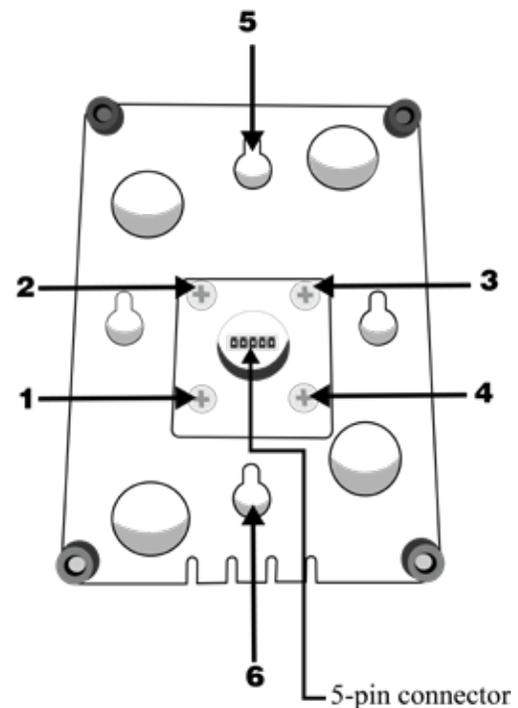

Figure 13. Bottom of counter-top bracket
8. Figure 13. Bottom of counter-top bracket